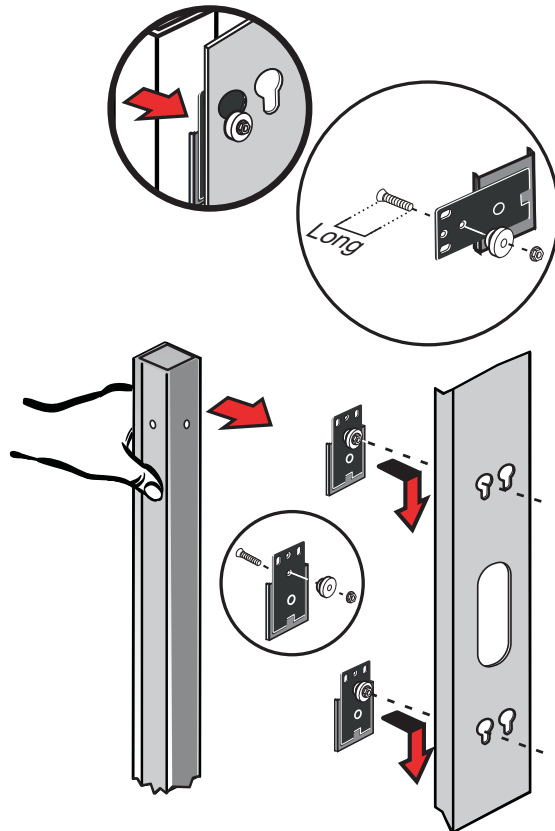

Figure 10. Attaching the Mounting Buttons to the Mounting Clip Feet
1. Locate the two mounting clip feet, M4 flat-head long screws (M4×13L), two spare mounting buttons, and M4 hex nuts. Using a Phillips screwdriver and a 7 mm wrench, assemble the mounting buttons and clip feet (see Figure 10).